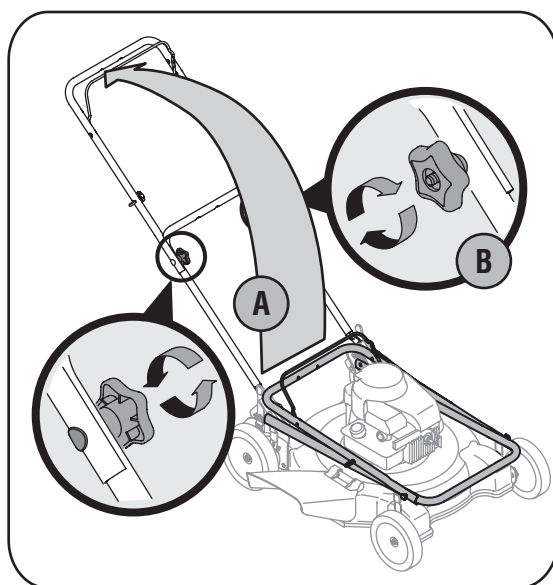

Figure 2
- a. Pull up and back on the upper handle to raise the handle from position A into the operating position B. See Figure 2.